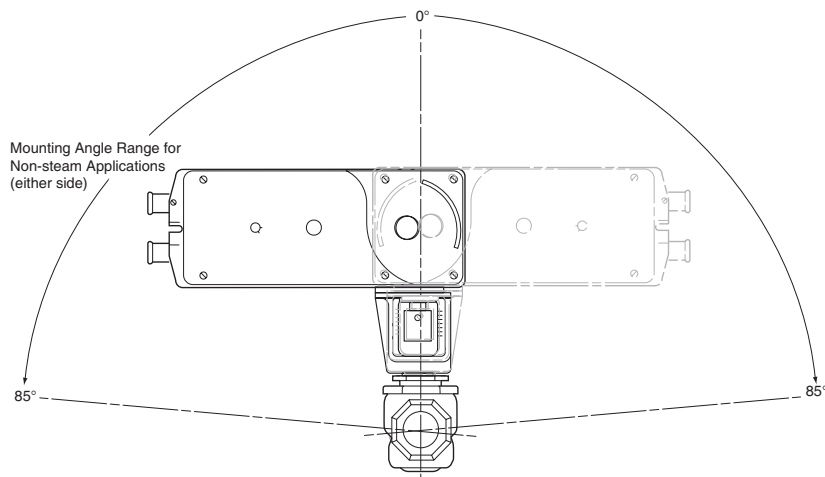
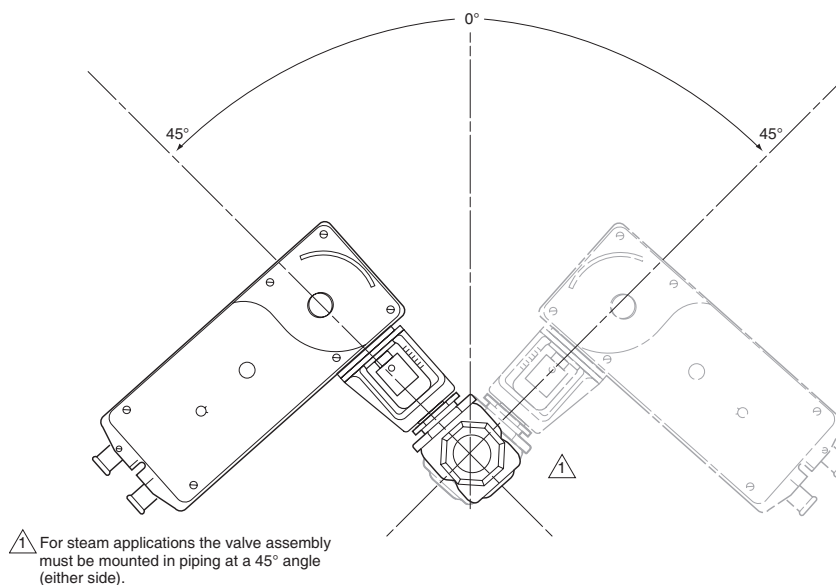

Figure 15 Typical Mounting Position.
Figure 16 Typical Mounting Position for Steam Applications
- The actuator must be mounted above the centerline of the valve body. This will minimize the risk of damage to the actuator in the event of condensation. Refer to Figure 15, Figure 16, and Figure 17.
The valve should be mounted in a weather-protected area, in a location that is within the ambient temperature limits of the actuator. The installation of the actuator assembly should provide clearance on all sides to allow for any maintenance that may be needed (see Figure 15 and Figure 17). Install the valve according to the instructions in the appropriate valve body General Instructions sheet (see Applicable Literature).
- On non-steam applications the globe valve assembly must be mounted so that the actuator is at least 5° above the horizontal (Figure 15) to ensure that any condensate that forms will not travel into the mounting bracket or actuator.
- On steam applications, the globe valve assembly must be mounted at 45° from vertical. (Figure 16).